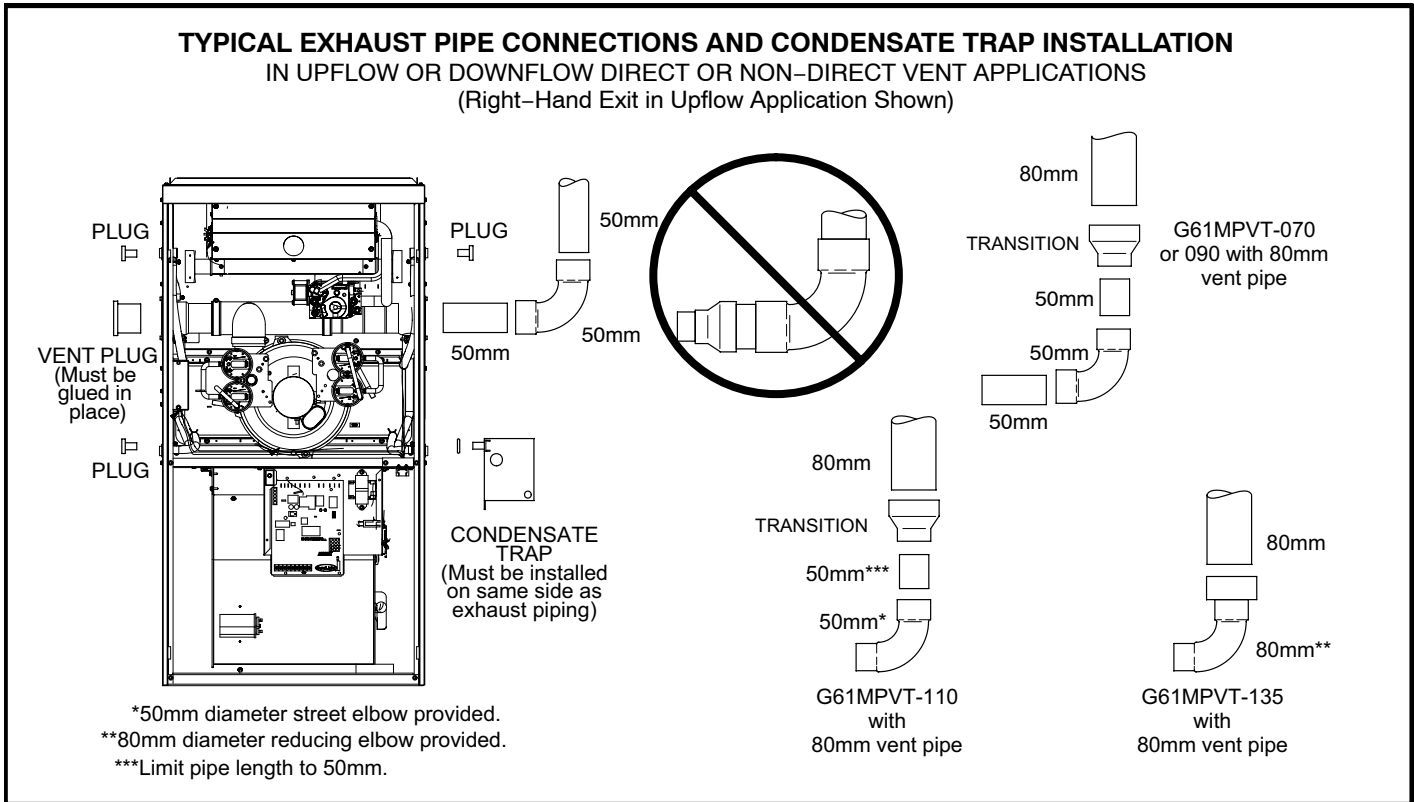

FIGURE 15
Exhaust Piping (Figures 15 and 16)
*NOTE - Two 50mm diameter street ells and two 80mm to 50mm reducers are contained in a bag assembly strapped to the blower deck of 60C-110 and 60D-135 units. The street ells **must be** glued directly into the unit flue collar. See figure 15. The 80mm to 50mm reducers must be glued to the street ells in **upflow or downflow applications**.*